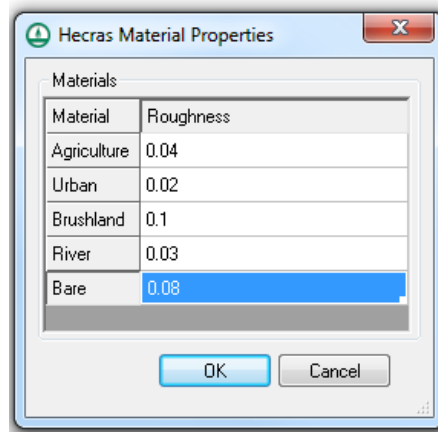

Figure 5 Materials roughness values
5. Enter roughness values for Agriculture, Brushland, Bare, River, and Urban as shown in Figure 5.